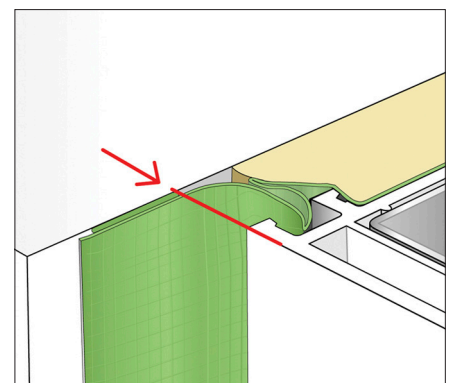

Fig 3: Positioning of the butyl strip
- Bond membrane to reveal using the butyl strip. Ensure that the membrane is located as in fig 3.
- Bond membrane to reveal using the butyl strip. Ensure that the membrane is located as in fig 3. Consolidate the bond using a seam roller.